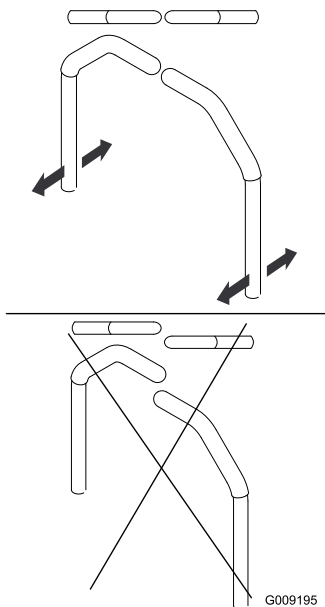

Figure 81
4. Align the levers front to rear position by bring the levers together to the neutral position and slide them until they are aligned, then tighten the bolts (Figure 81).